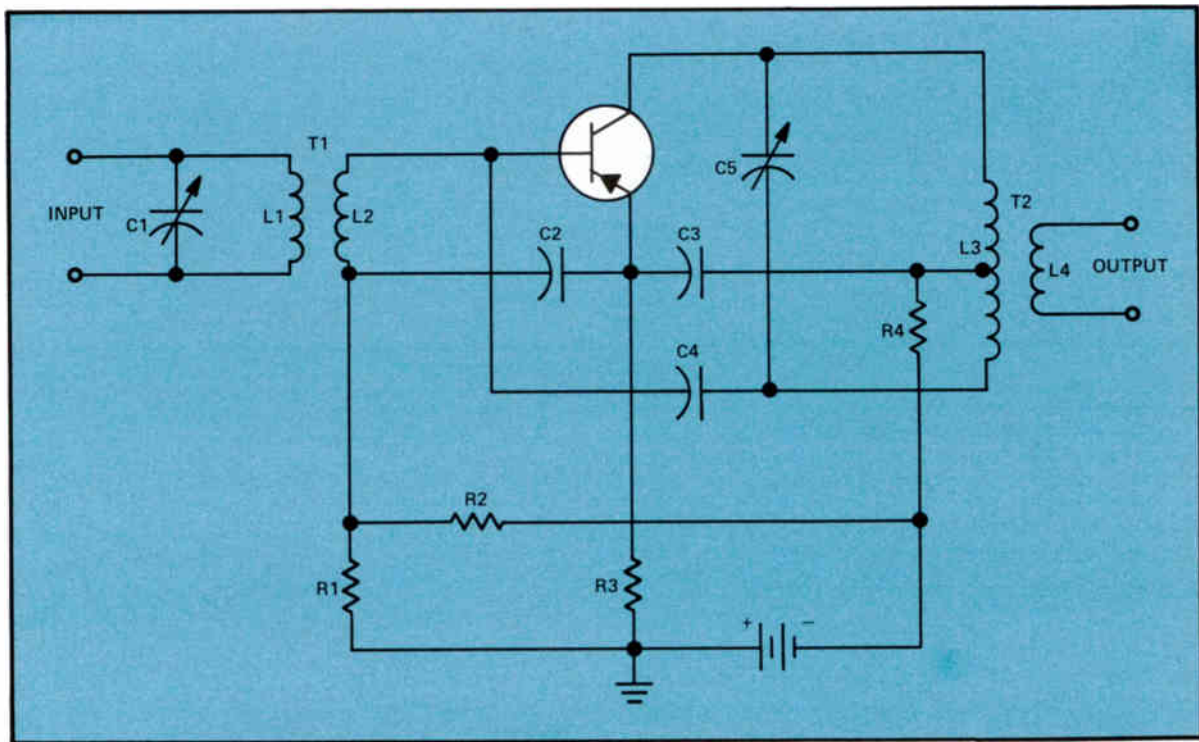
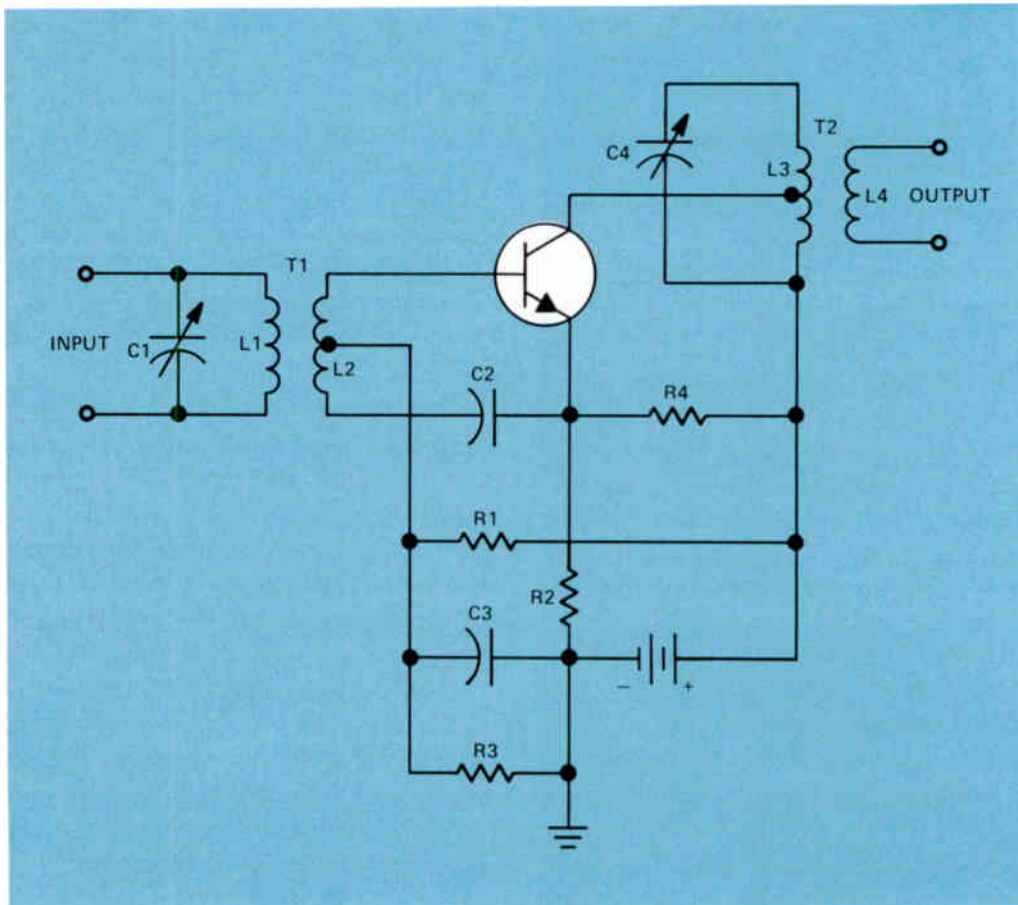

Figure 27. A typical transistor i-f amplifier using a pnp transistor.
Figure 28. Transistor i-f amplifier using an npn transistor.
A typical i-f amplifier using a pnp transistor is shown in Fig.27. C1 and L1 form a parallel-resonant circuit that is resonant at the intermediate frequency. They are part of the collector circuit of the mixer stage. L2 is inductively coupled to L1 so a signal is induced in L2 that is applied to the base of the transistor and to the emitter through C2, which has a low reactance at the i-f frequency.
Another transistor i-f amplifier is shown in Fig.28. This amplifier uses an npn transistor whereas the one shown in Fig.27 uses a pnp transistor. In addition to the different transistor types, the method of obtaining neutralization is somewhat different. Notice the resistor in the emitter circuit, R2. This resistor is not bypassed; therefore, a signal voltage will be developed across it. The signal voltage is fed through C2 into the lower end of the coil L2. The center tap of L2 is at signal ground potential because
- 27 In the circuit shown in Fig.27, what purpose does C4 serve?
- 28 In the circuit shown in Fig.28, why is the collector fed to a tap on L3?